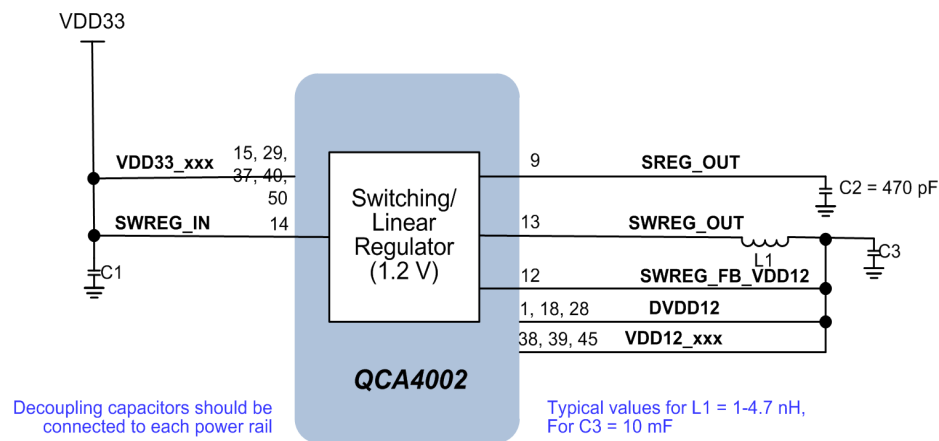

Figure 3-1 1.2 V Power Supply Regulated by the QCA4004
1. DVDD12 and SWREG_FB are connected through an external LC filter to the SWREG_OUT pin. See Figure 3-1.
1. DVDD12 and SWREG_FB_VDD12 are connected through an external LC filter to the SWREG_OUT pin. See Figure 3-1.
Figure 3-1 depicts the 1.2 V power supply regulated by the QCA4004. Refer to the reference design schematics for details.